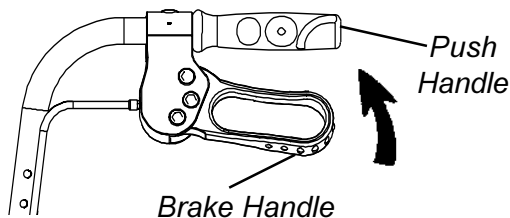

FIGURE 11- UNLOCKING/USING HAND BRAKES
Unlocking Hand Brakes (FIGURE 11)
1. Pull UP on the top portion of the brake handle to release as shown in FIGURE 11.